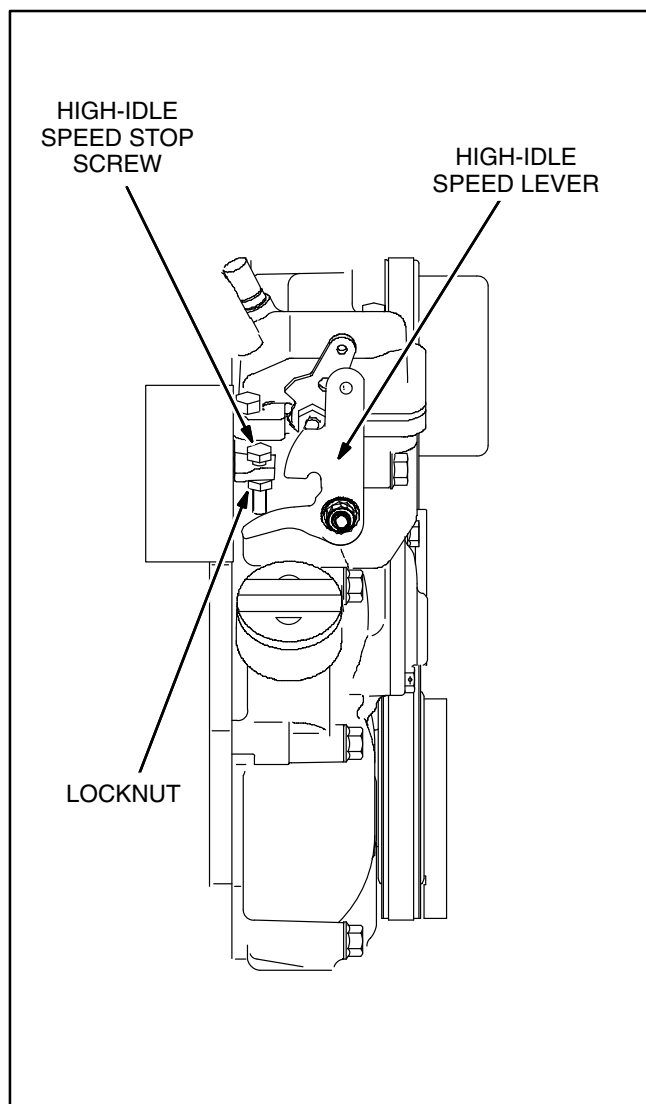

FIGURE 9-2. HIGH-IDLE SPEED STOP SCREW
1. Remove the top housing panel (p. 4-4) for access to the stop screw (Figure 9-2).